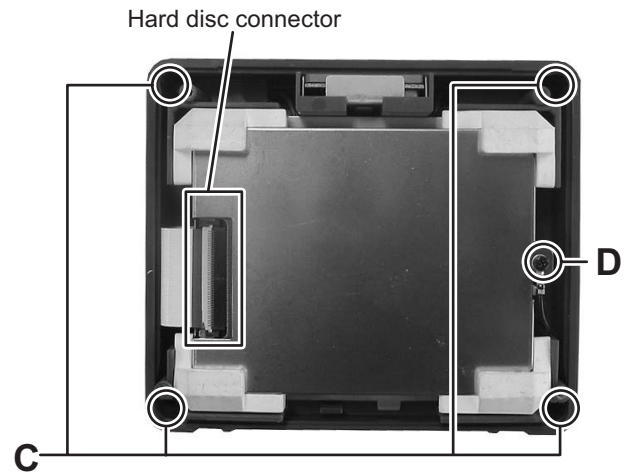

Fig.4
3.1.3 Removing the front panel and the touch panel (See Fig.4, 5)
- (1) Remove the four screws **C** attaching the front panel. (See Fig.4)
3.1.5 Removing the HDD (See Fig.4)